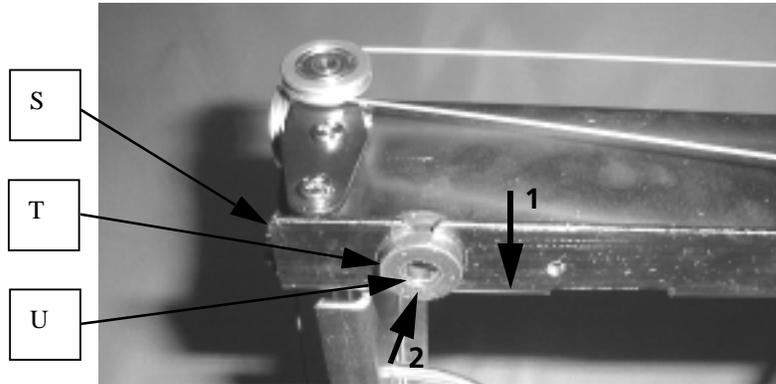

FIGURE 16-11
18. Connect the opposite wire and X-carriage to each other by setscrews (J).
19. Remove work bolts and nuts, set the cushion (T) to the side bracket (S) in the arrow 1 direction as shown in Fig.16-11, and set the bushing (U) in the arrow 2 direction.